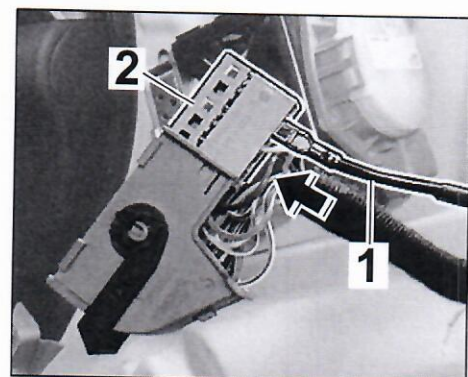

Figure 34
- 4.6.3 Insert socket contact ⇒ *Figure 34 -1-* into chamber A2 of the grey plug socket ⇒ *Figure 34 -2-*.